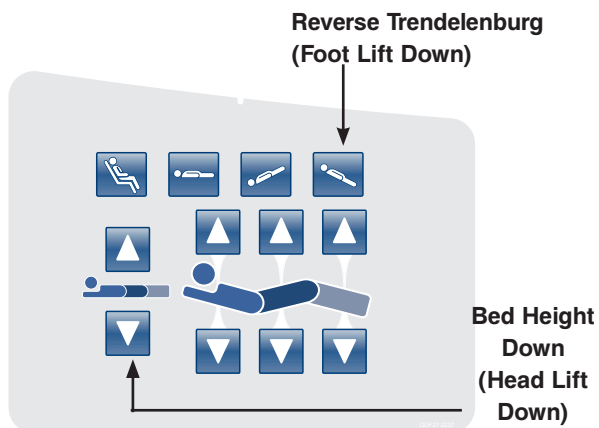

Figure 7: HE Siderail Control Panel - (Right Side Shown)
- Lower the bed to the lowest position. Press the **Bed Height Down (Head Lift Down)** and **Reverse Trendelenburg (Foot Lift Down)** buttons simultaneously as shown in Figure 7.